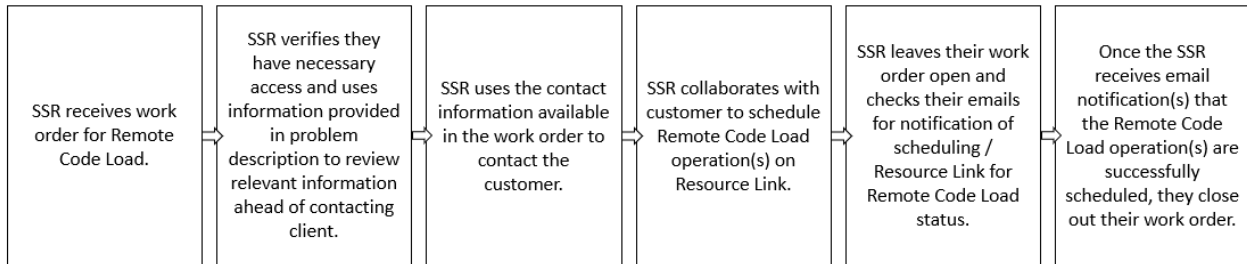

Figure 5. Remote Code Load firmware update process flow
The IBM z15 supports the new Remote Code Load for IBM Z Firmware (Remote Code Load) feature. This feature allows an IBM Service Support Representative (SSR) to remotely schedule one or multiple Single Step Code Load firmware updates on a Hardware Management Console (HMC) or Support Element (SE) that can be monitored remotely. See Figure 5 on page 132 for an overview of this process. After you (the SSR) are assigned to the one-time Remote Code Load firmware update, you are responsible for scheduling, managing, and coordinating the Remote Code Load firmware update until it is installed and successfully scheduled. After the Remote Code Load is successfully scheduled, it is the Remote Code Load monitoring team's responsibility to monitor the status of the Remote Code Load firmware update.